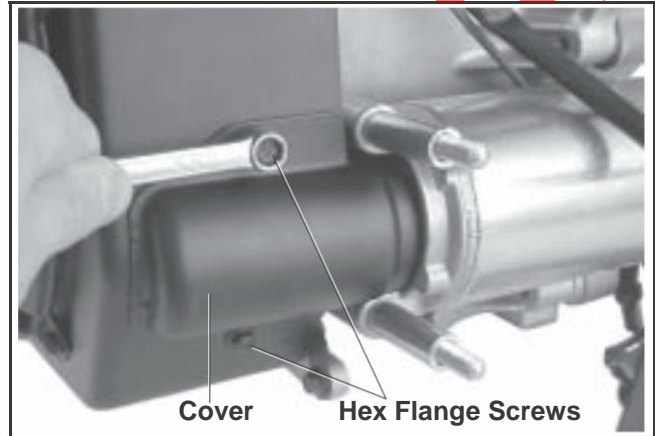

Figure 9-16. Removing Starter (pinion) Cover.
- b. Remove the screws securing the starter (pinion) cover to the blower housing. See Figure 9-16.